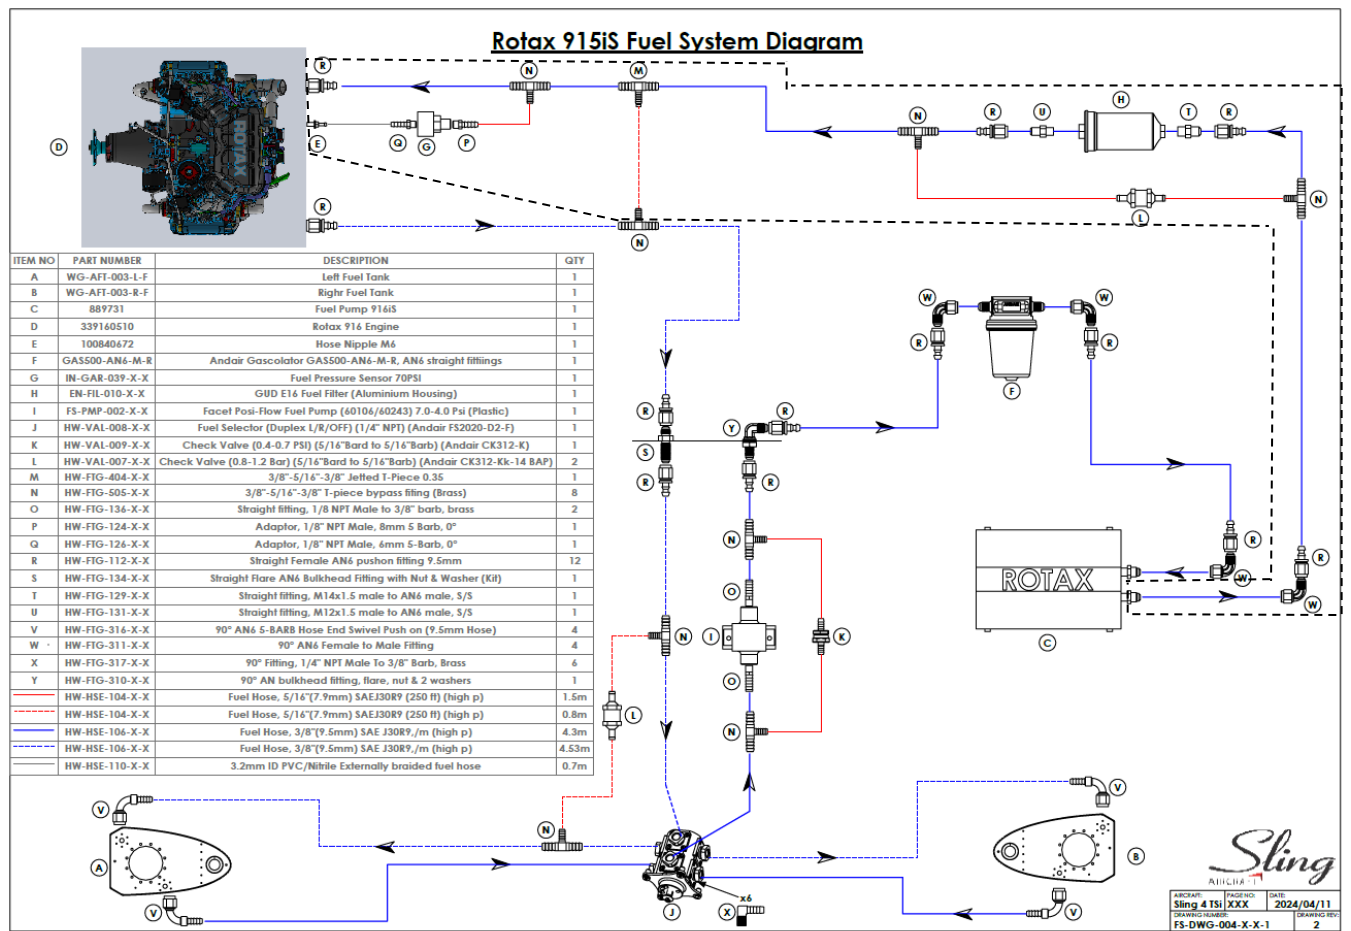
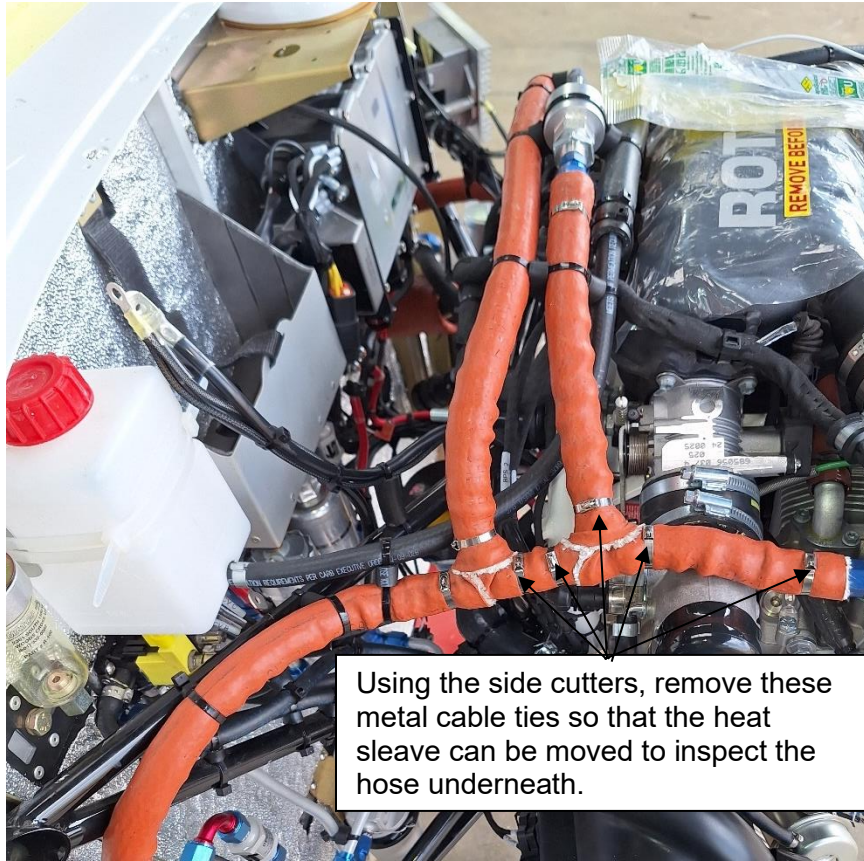

Figure 7: 915 iS Fuel System Diagram
Figure 8: Example of cable ties to be removed.
With reference to Figure 7, all the fuel lines bounded within the dashed line “----” must be inspected and replaced should they be of the sub-standard type of fuel hose. It must be replaced with the correct fuel hose as described in Section 2.
- Step 2: The heat sleeve around the fuel hose will be secured in place using either locking wire or metal cable ties. Once the cowling has been removed, used the side cutters to remove these so that the heat sleeve can be moved to inspect the hose underneath. Refer to Figure 8 for an example of how the heat sleeve is attached using the cable ties. Please note, Figure 8 is just for reference purposes, all the fuel lines (as shown in Figure 7) must be checked.
- Step 2: The heat sleeve around the fuel hose will be secured in place using either locking wire or metal cable ties. Once the cowling has been removed, used the side cutters to remove these so that the heat sleeve can be moved to inspect the hose underneath. Refer to Figure 8 for an example of how the heat sleeve is attached using the cable ties.